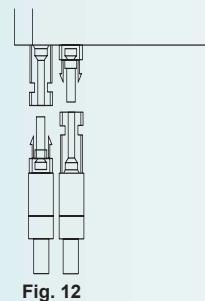

Fig. 12
- Connect the positive polarity to the (+) pins on the device's DC input and the negative polarity to the (-) pins (**Fig. 12**).